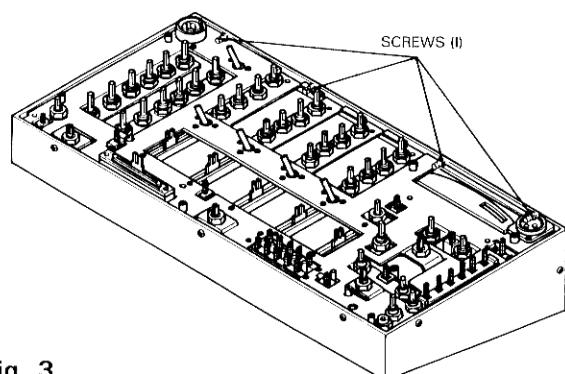

Fig. 3
- (a) Remove 4 screws(I). (Fig.3)